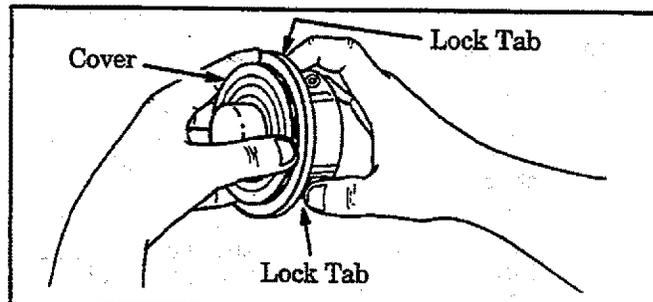

Figure 16
- a. Hold the Trimmer Head as shown in Figure 16 . Press the two Lock Tabs and remove the cover. Figure 16 .